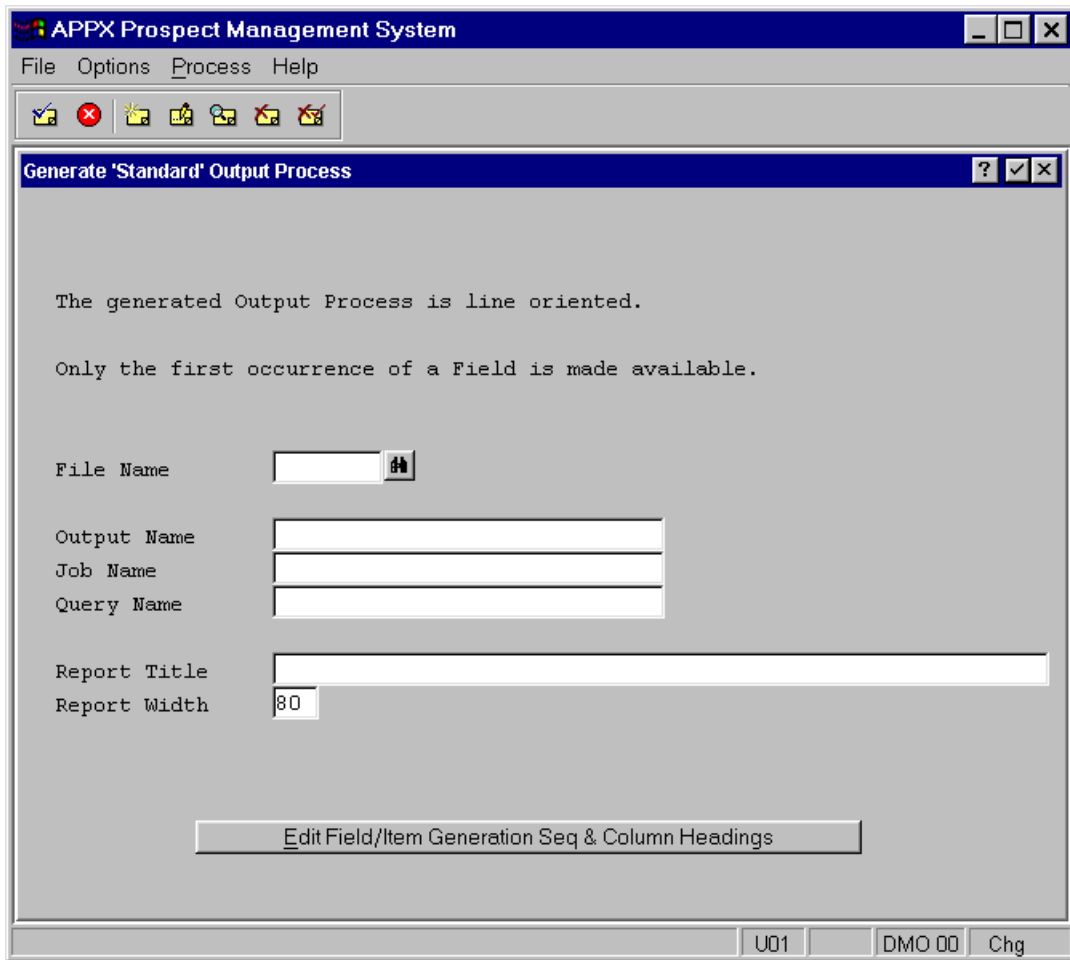

Figure E4.1 – Generate 'Standard' Output Process
- Under the Process Generation heading on the Toolbox menu, select the Standard Output option to display the Generate 'Standard' Output Process setup screen as shown in *Figure E4.1*.